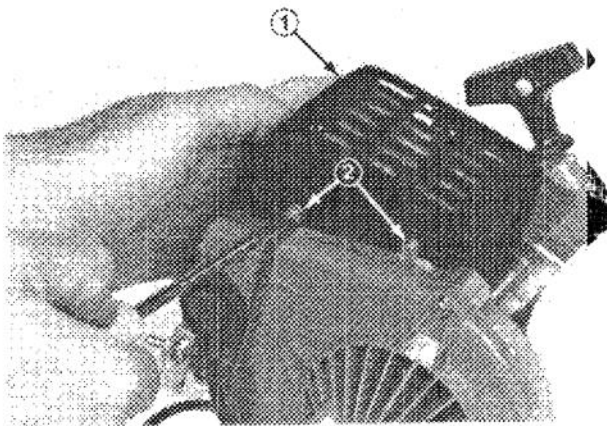

Figure 35
1. Remove screws securing muffler cover and remove muffler (Fig. 35).
8. Install muffler cover (Fig. 35).